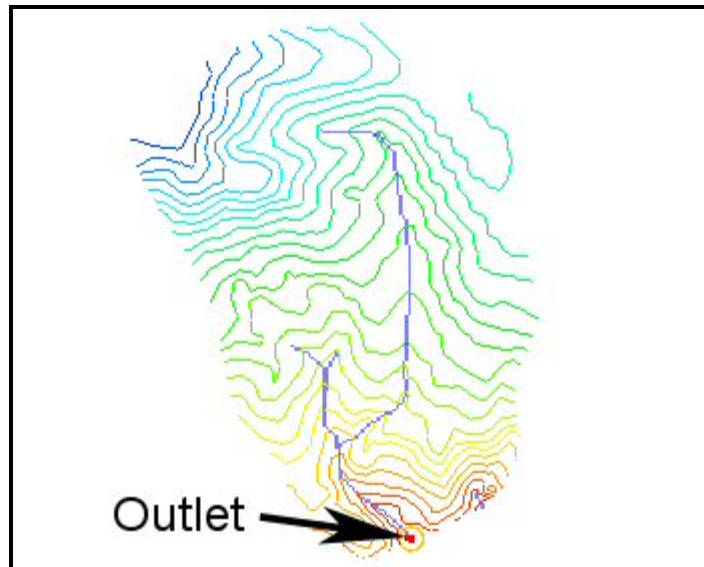

Figure 11-1: DEM outlet
14. Create an outlet as shown in Figure 11-1